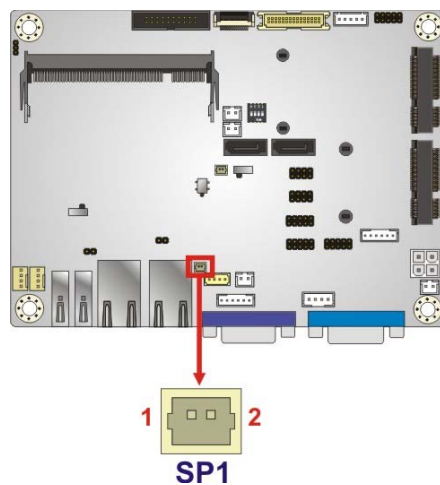

Figure 3-5: Buzzer Connector Location
- CN Location:** See Figure 3-5